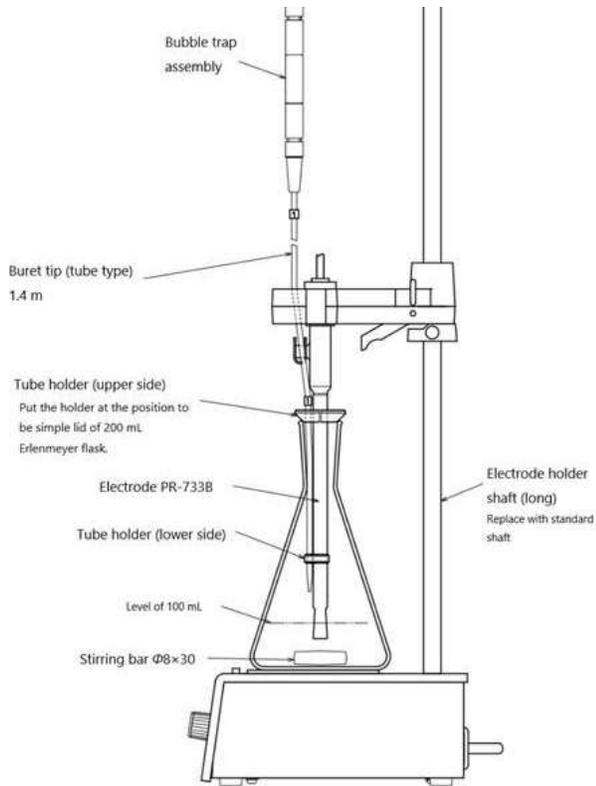
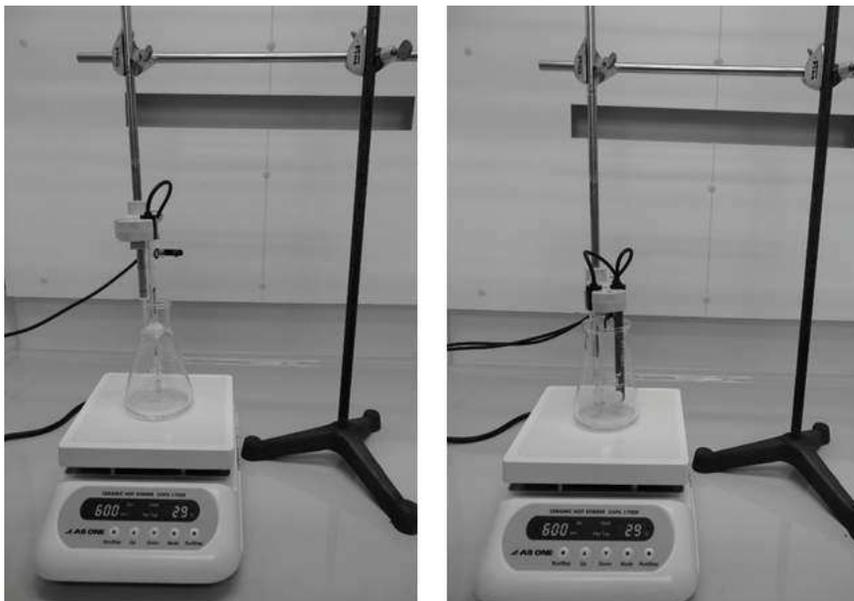

Figure 1 An modification example of buret tip and stirrer parts compatible with Erlenmeyer flasks
Figure 2 An installation example of electrodes compatible with hot stirrer and titration vessel.
- Buret : In order to use the Erlenmeyer flask as titration vessel, it is necessary to modify the buret tip and stirrer parts. (Refer to figure 1.)
Attach the shaft for the electrode holder (Refer to figure 2.)
In this report, since a 200 mL Erlenmeyer flask is used for the titration vessel, the electrode is required a long and combination type platinum-reference combination electrode PR-733BZ, and the buret tip is replaced to a tube type (Refer to Figure 1). To heat the flask during titration, prepare a hot stirrer and laboratory stand. A shaft for electrode holder is attached on the laboratory stand to move up and down the electrode (Refer to Figure 2).